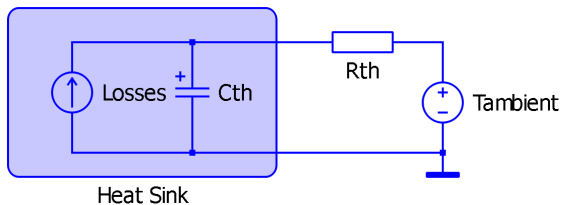

Figure 2: Electrical equivalent of thermal circuit
takes place at the same time as the circuit simulation but the thermal components are represented in PLECS in a separate domain. The thermal quantities and their analogous electrical equivalents are given in Table 2. In the analogous electrical circuit, conduction losses of a component are modeled as an ideal current source, the thermal impedance between the component and air as a simple resistor or RC chain, and the ambient temperature as a voltage source. This equivalent circuit is shown in Fig. 2.
- 9** Using **Figure 2** and **3** of the device's datasheet it is possible to estimate the conduction losses. It is recommended by the manufacturer to refer to the " $V_{GS} = 15$ " curve unless you are not driving the gate with full voltage.